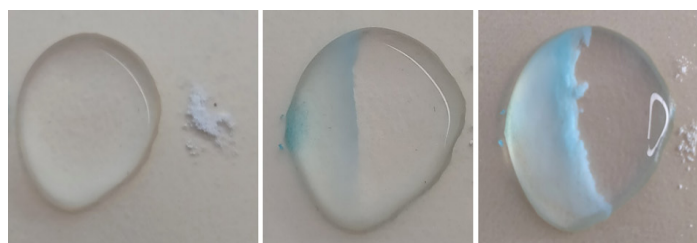

Figure 3: Microscale reaction of copper(II) sulfate (blue) and sodium carbonate (white). Image courtesy of Bob Worley
Figure 3 shows what happens when tiny grains of copper(II) sulfate and sodium carbonate are added to each side of a drop of distilled water. The two ionic solids dissolve and diffuse through the water, and a line of basic copper carbonate precipitate forms in the centre of the drop where the copper and carbonate ions meet.